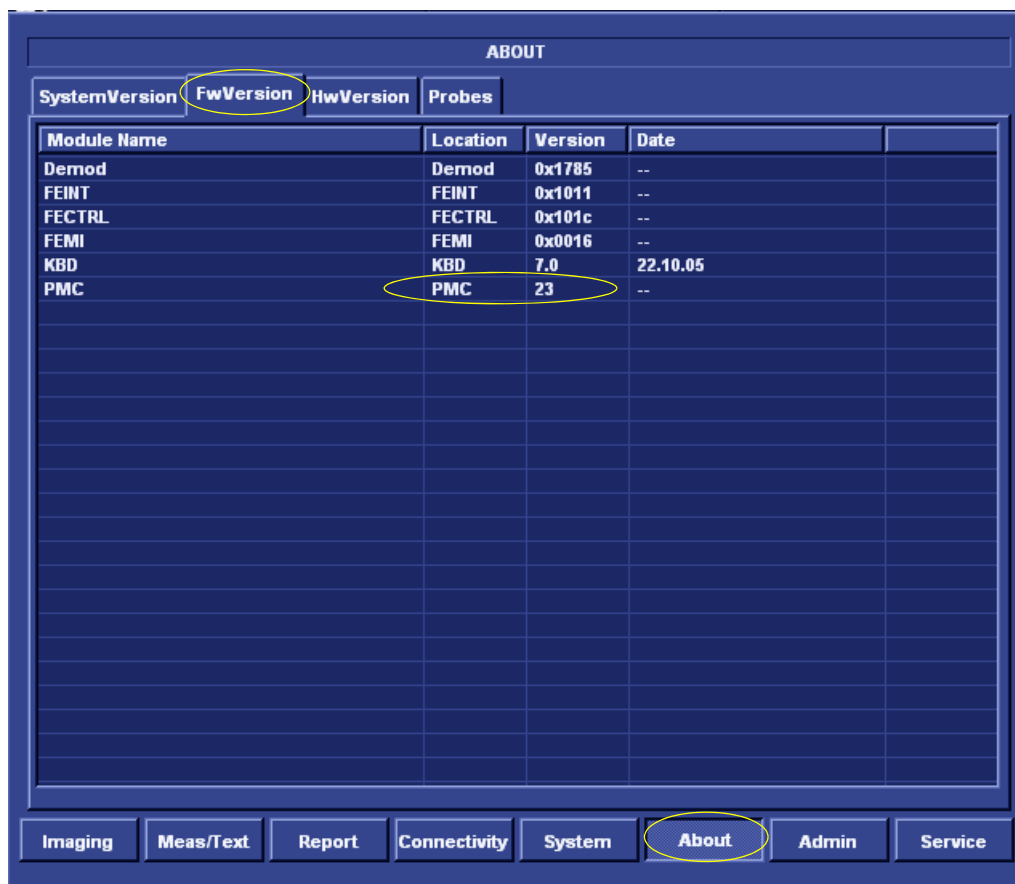

Figure 8-136 Checking the PMC Version
17) Press the **About** button and activate the **FwVersion** tab; verify that PMC version is now 23, as shown in the example in Figure 8-136 below.